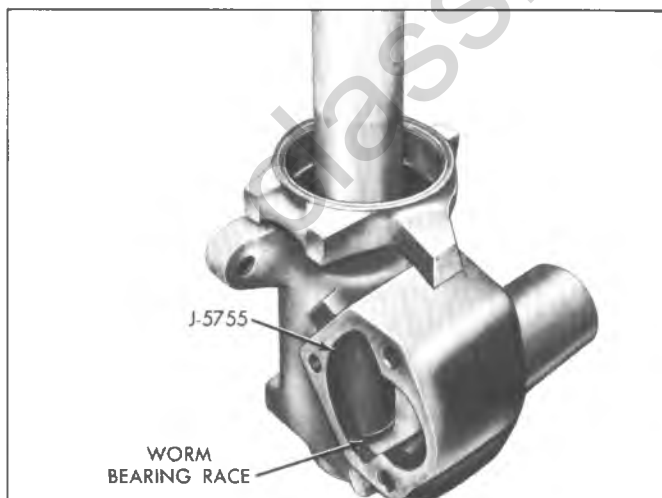

Fig. 10--Installing Wormshaft Bearing Race--Typical
3. Press the new bearing race into position using Tool J-5755 (fig. 10).